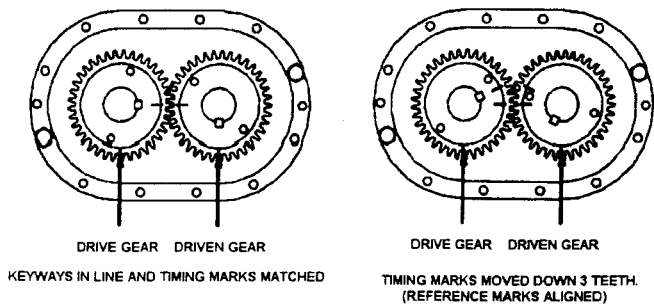

Figure 1. Timing Gear Alignment
Align timing marks and count four (4) teeth down and place reference marks on the gears. (Refer to Figure 1 below)